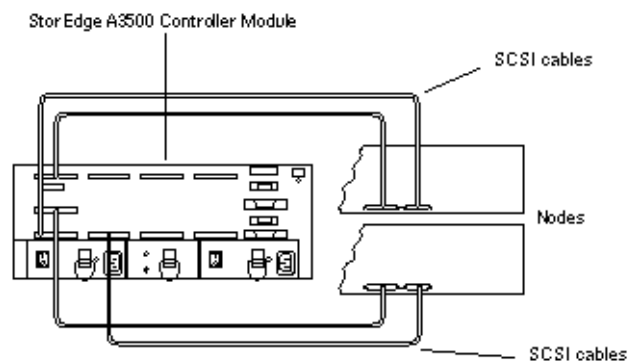

FIGURE 1-1 Installing a StorEdge A3500 Storage System: An Example
- See Figure 1-1 for an example about how to cable a StorEdge A3500 system.